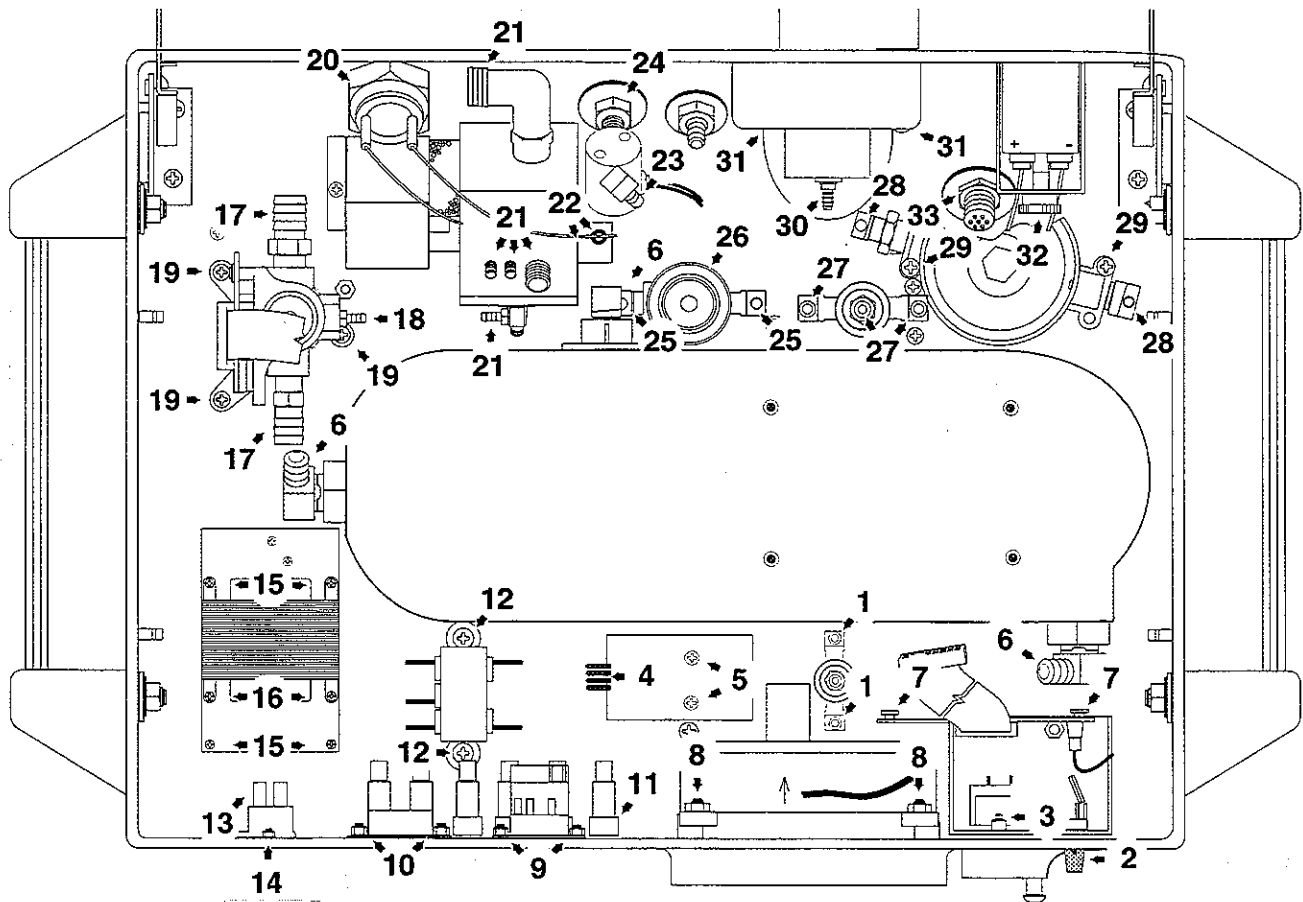

Figure 8-6
2. After marking for correct orientation, remove connector J45 from the PCB (Figure 8-6, Ref. 4).
3. Remove the two phillips screws securing the PCB to the ventilator chassis (Figure 8-6, Ref. 5).
2. Remove the three pneumatic connections to the Accumulator Assembly (Figure 8-6, Ref. 6).
2. Remove the 4 fan mounting screws (Figure 8-6, Ref. 8).
2. Remove the two phillips screws (Figure 8-6, Ref. 1) securing the mounting bracket to the chassis of the ventilator.
- Remove the Alarm Loudness knob (Figure 8-6, Ref. 2) using an allen wrench.
- Remove the two outlet mounting screws (Figure 8-6, Ref. 10) and remove the outlet from the inside of the ventilator.
- Remove the two mounting screws (Figure 8-6, Ref. 3) using an allen wrench.
- Using an allen wrench, remove the mounting screws and nuts from the Power Entry Module (Figure 8-6, Ref. 9).
3. Using an allen wrench, remove the mounting screws and nuts from the receptacle (Figure 8-6, Ref. 10).